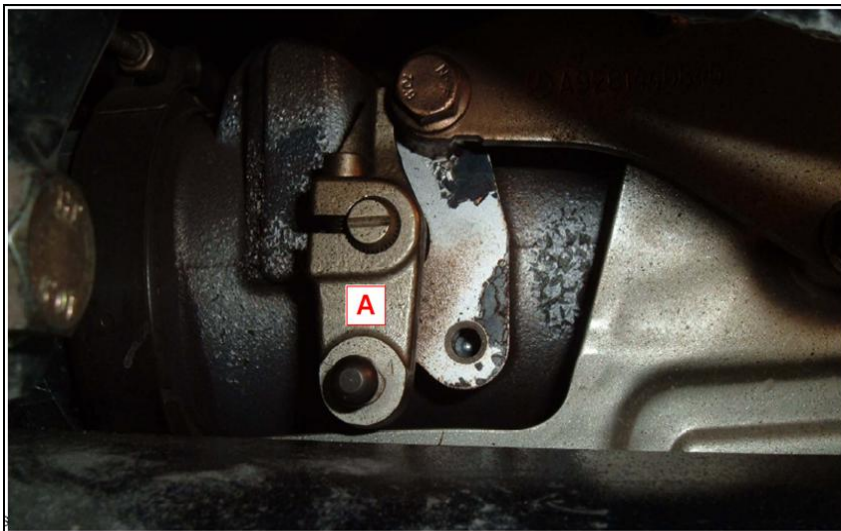

Figure 3 – Exhaust Flap Lever Adjustment
4. Rotate flap to full open position, the lever "A" should point downward. See Figure 3.